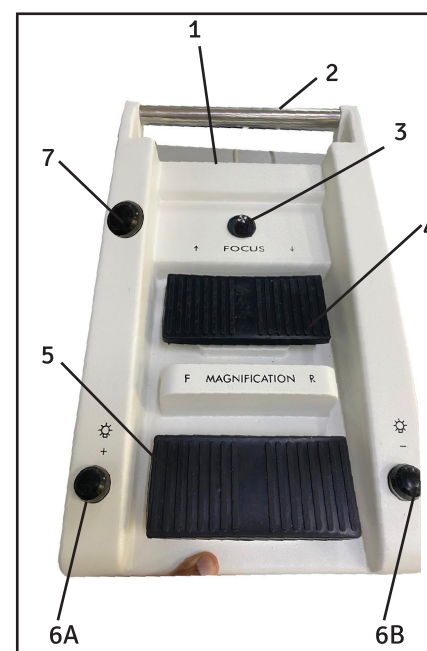

Fig. 26
Referring fig 26, foot control with 10 functions and 3 meter cable is a wired foot control switch. It allows following functions of the microscope.
- Operate stand by illumination on foot switch,in case main LED failed for continues working Refer point 7 Fig.26
Refer point 7 Fig.26